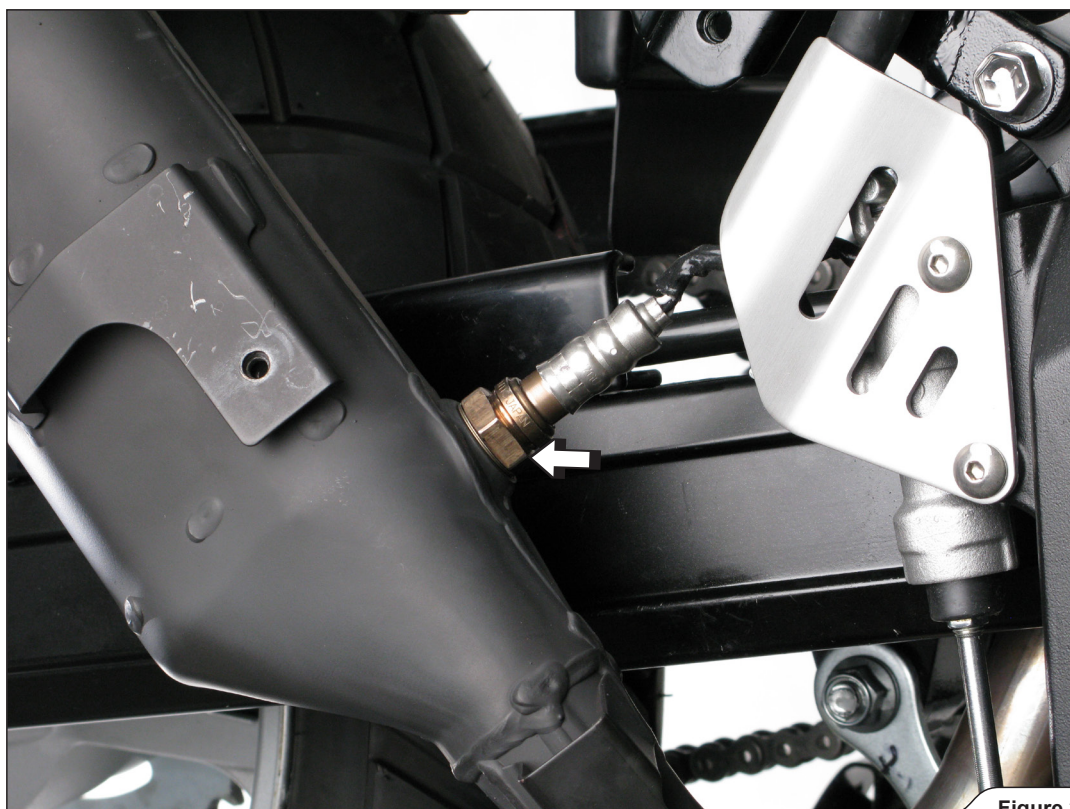

Figure 2
3. Unscrew the lambda sensor (Figure 2).